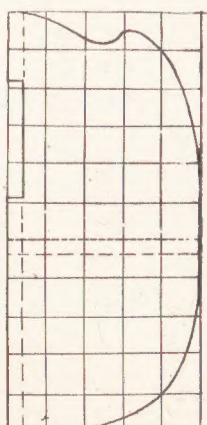

Fig. 3—End shape
The ends (A), Fig. 2, will be the first pieces to set out and cut. Two pieces of $\frac{3}{4}$ in. thick stuff measuring 11ins. by 5ins. will be wanted, and on one of the pieces a series of 1in. squares must be drawn. The curved outline is put in through them, as in Fig. 3. It would be well to add on the piece to the dotted lines which indicate the position of